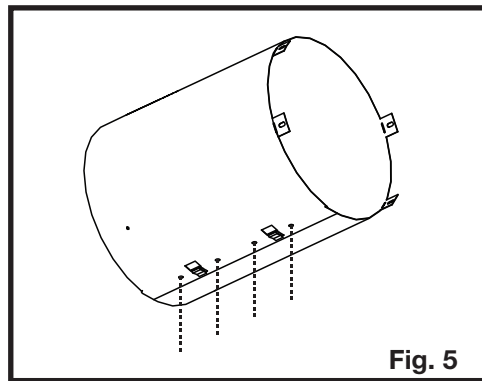

Fig. 5
2. Ensure both ends line up and secure ends with clip and fasteners (**Figure 5**).